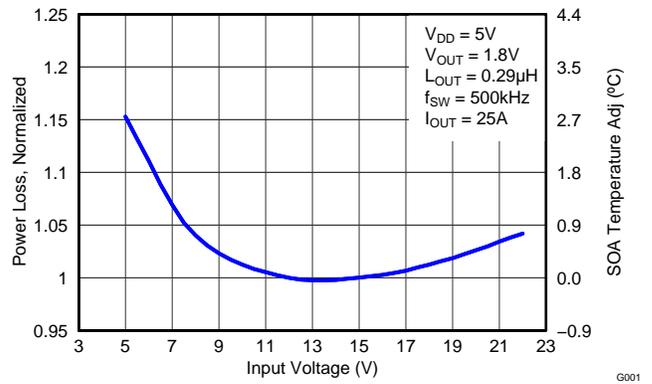

Figure 8. Normalized Power Loss vs Input Voltage
- Normalized Power Loss for input voltage \approx 1.07 (Figure 8)
- SOA adjustment for input voltage \approx 1.2°C (Figure 8)